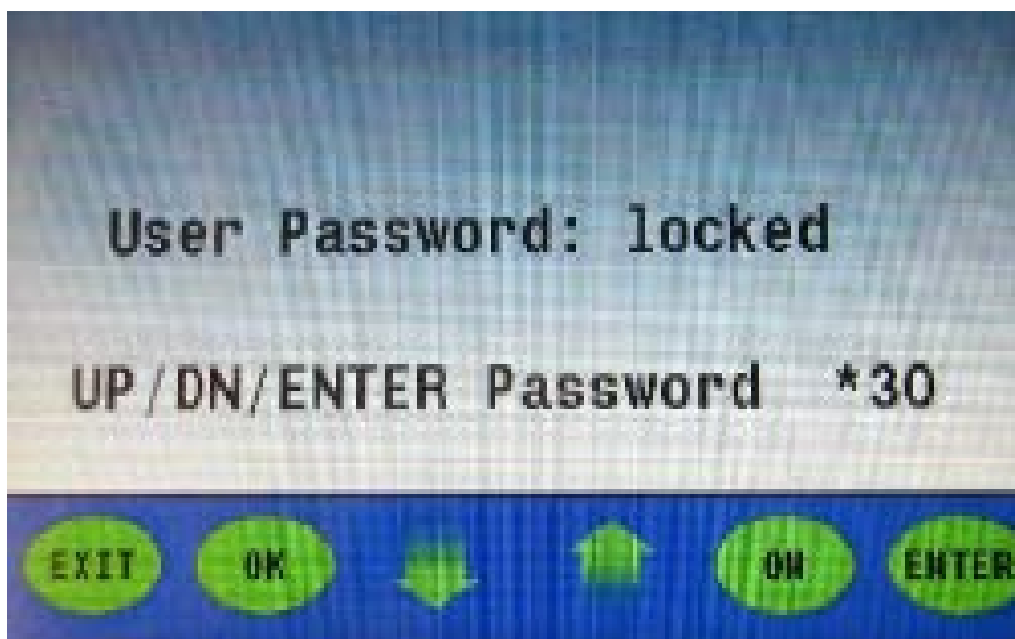

Figure 12
3. Press the **enter button**; a (*) is inputted into the field for the first digit; the second number will begin to blink (**figure 12**). Next, press the **up arrow** to assign the second number.